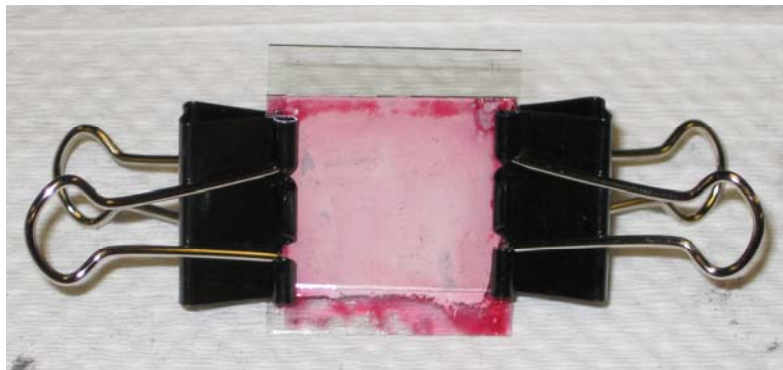

Figure 2. The TiO_2 coated substrate and the graphite coated substrates are contacted using two binder clips.
13. Once the substrate is dried. Place the graphite coated substrate on top of the TiO₂ coated substrate. Use two binder clips to attach the glass slides, as shown in Figure 2.